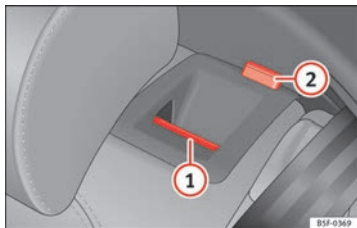

Fig. 93 On the rear seat backrest: release catch ①; red mark ②.
- Push the unlock button ⇒ Fig. 93 ① forwards and at the same time lift the backrest.
- The rear seat backrest is not engaged when the red marking of the button ② is visible.
The rear seat backrest is not engaged when the red marking of the button ⇒ Fig. 93 ② is visible.